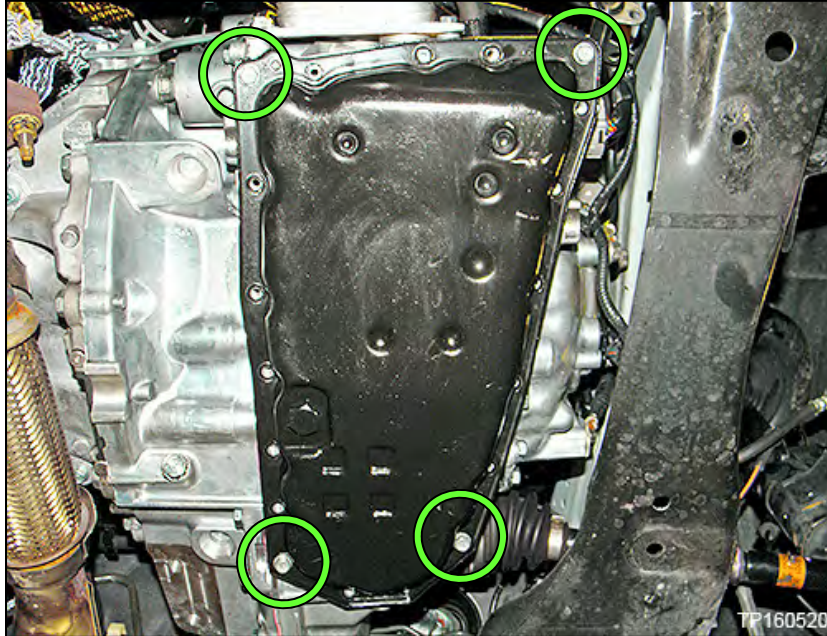

Figure 25
9. Temporarily install the oil pan gasket and oil pan with four (4) oil pan bolts at the corners of the oil pan, hand tight (Figure 25).